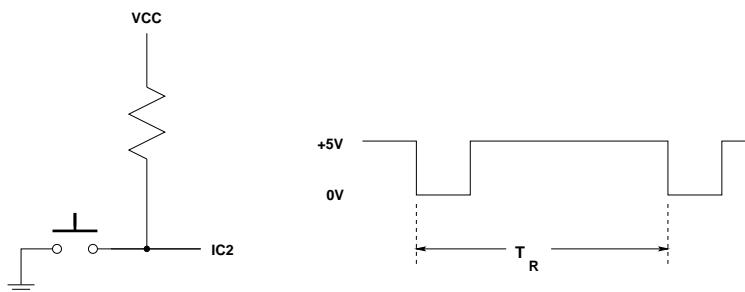

Figure 1: Circuit to measure speed of button pushing.
The right part of Figure 1 is what the signal to IC2 will look like if you push the pushbutton twice.
3. Add to your program code to measure the time T_R between the two falling edges of the signal in Figure 1. Set the prescaler so you can measure time differences up to 250 ms.